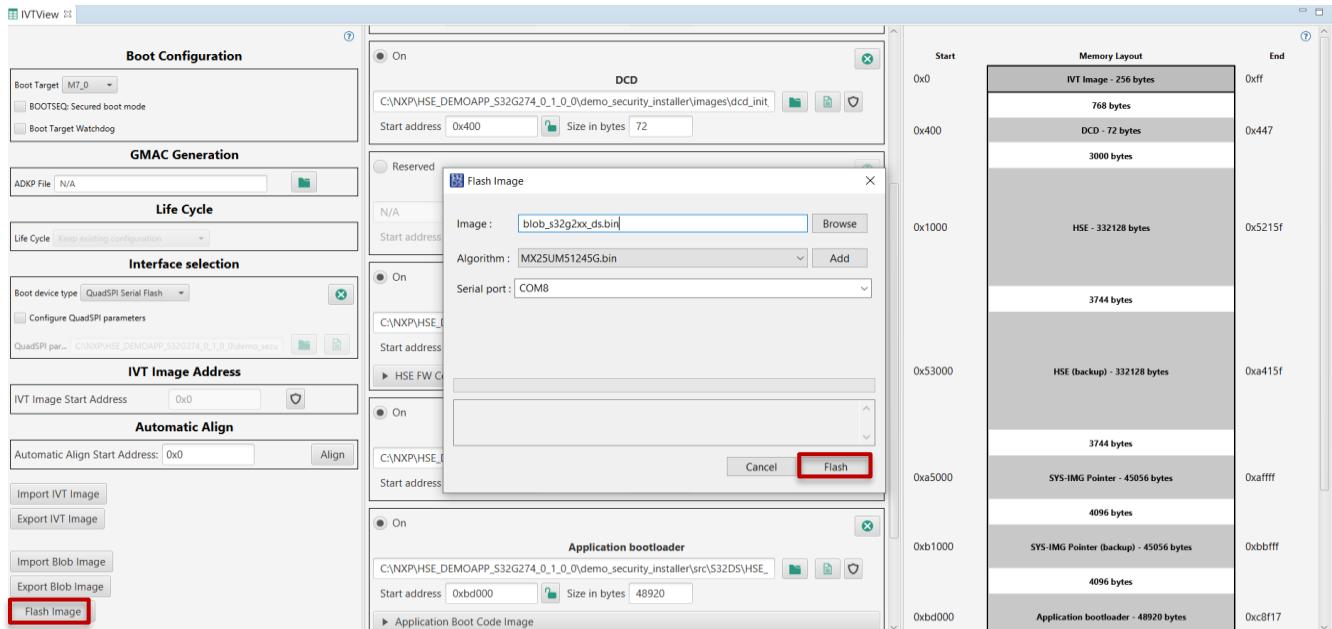

Figure 5 Flash the blob (step 2a)
- a. Using the S32 Flash Tool within IVT view of S32 Design Studio: Click on the *Flash Image* button in *IVT View* to program the blob with via UART – see **Figure 5**.